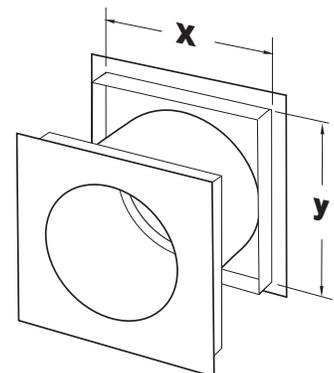

Figure 5. Wall cut-out specifications for direct vent wall thimbles may vary by manufacturer.
- **Wall Pass-through:** The vent manufacturer’s Wall Thimble must be used to pass vent pipe through an exterior wall. Specifically designed for this purpose, the thimble will act as both a firestop and heat shield while maintaining proper clearance between the vent pipe and adjacent combustible materials. The wall opening must be framed in to the vent manufacturer’s specifications. See fig. 5. Optional decorative plates are available to finish the interior side of the wall pass-through.